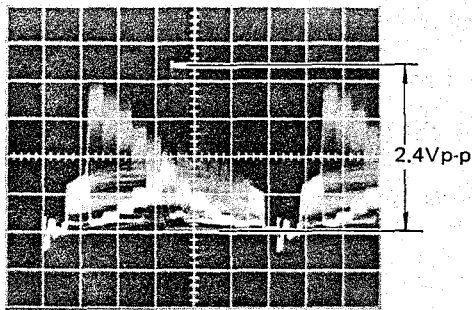

Fig. 6-4-5
- Adjust BEAM VR202 until the waveform is clipped at 2.4Vp-p. (see Fig. 6-4-5)